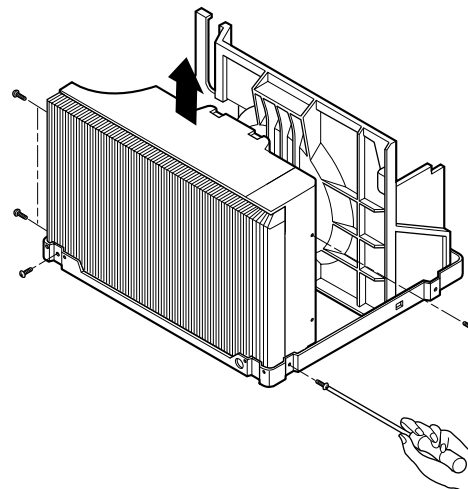

Figure 23
6. Re-install the components by referring to notes. (See Figure 23)